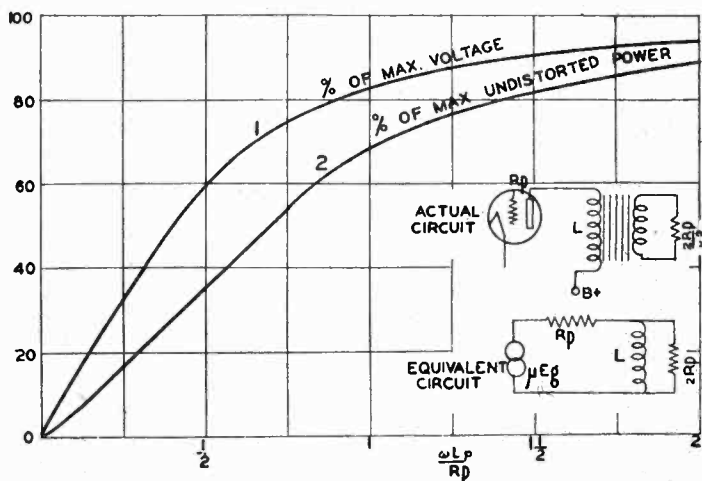

Fig. 6—Effect of primary inductance on power output of tube
Using equation (5) the per cent of maximum voltage can be found for various values of  $\omega L_p/R_p$  and the results plotted as in Curve 1, Fig. 6. Since the power delivered to the load is proportional to the square of the voltage, the per cent of maximum undistorted power is given by the square of the ordinates of Curve 1, and is shown by Curve 2, Fig. 6.
The value of  $L_p$  to choose for a given tube depends upon the degree of uniformity desired in the low-frequency range. Curve 2 of Fig. 6 indicates that at the frequency at which the primary reactance equals the load impedance ( $\omega L_p/R_p = 2$ ), the loss in power is only 12 per cent, and that at the frequency where  $L_p$  equals the tube impedance ( $\omega L_p/R_p = 1$ ) the power